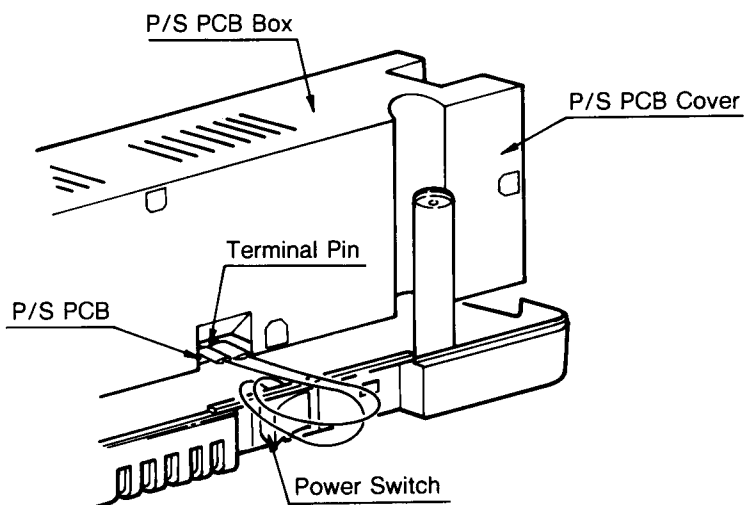

Figure 2-16. Power Switch cord Removal
- (6) Lift the Base Frame and remove the Power Switch cord receptacles from the terminal pins on the Power source PCB, then take the Base Frame with FDD's out of the bottom Case. (Figure 2-16)